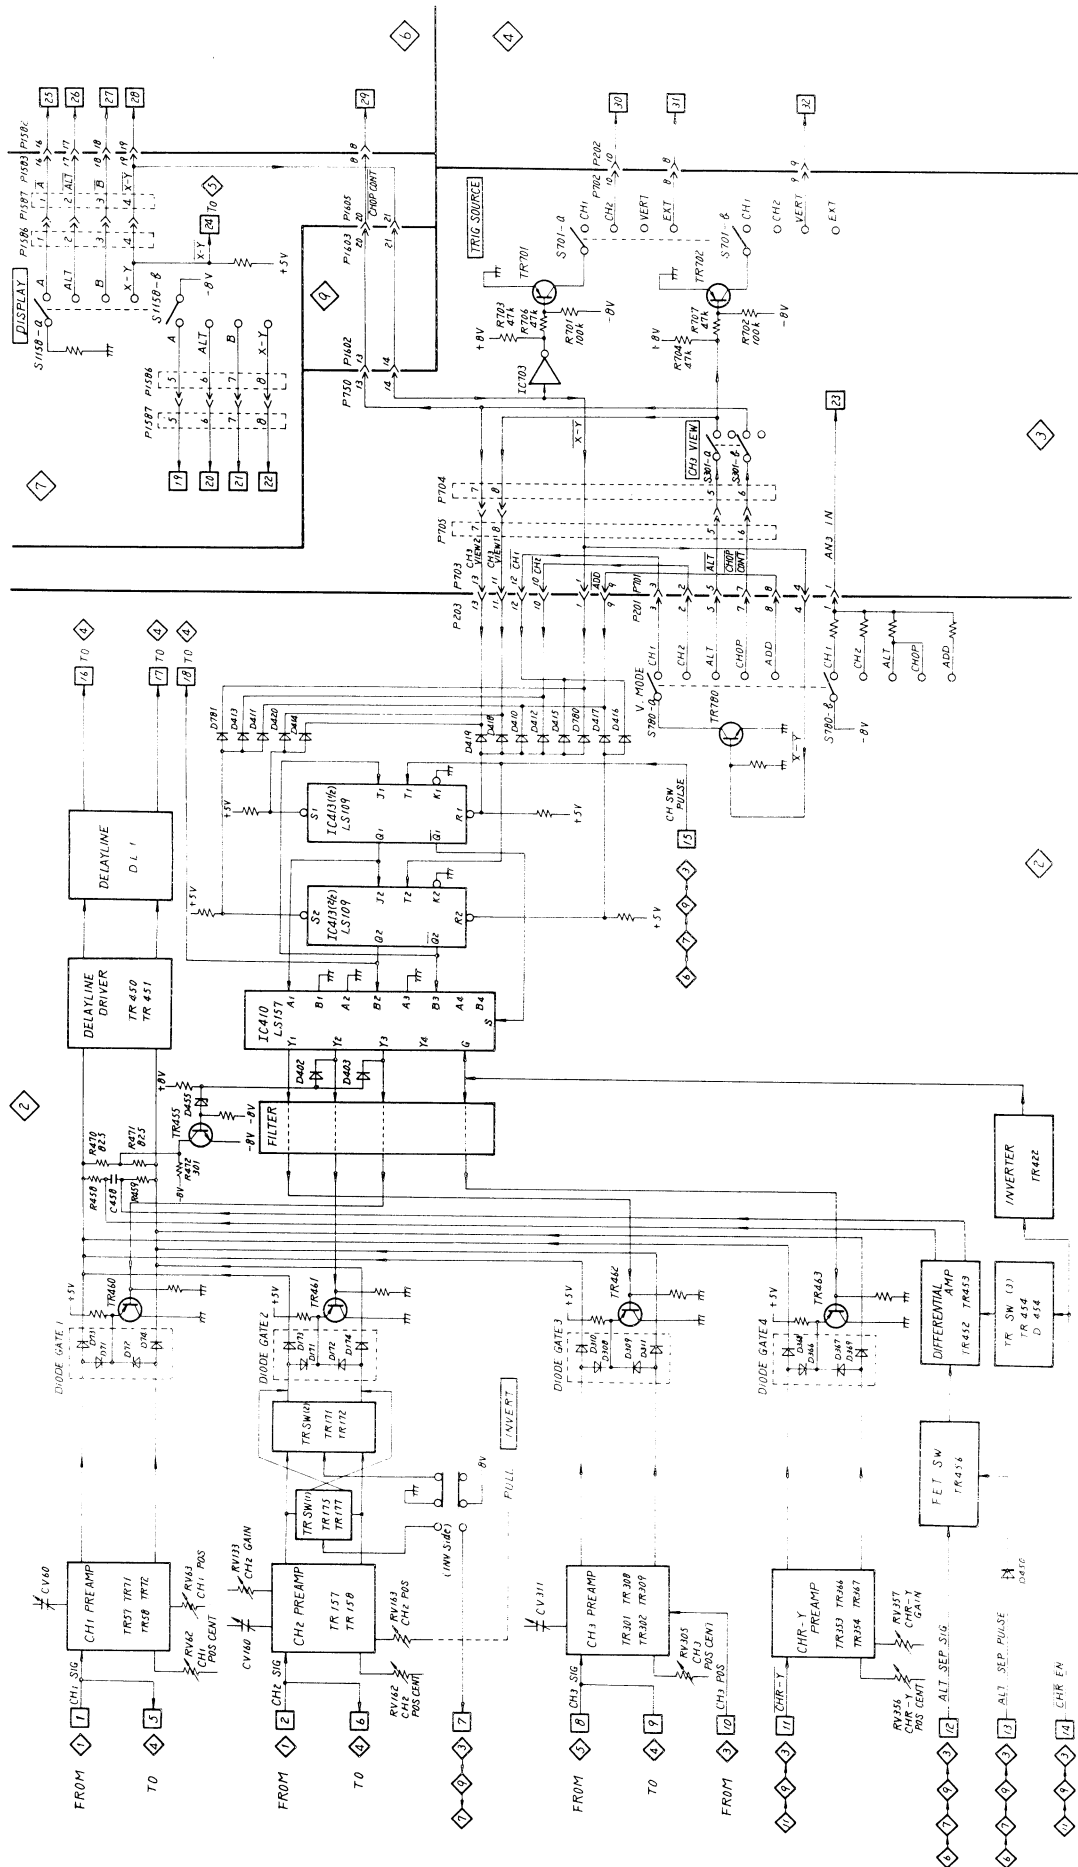

Fig.6-4
Figure 6-4 is a detailed block diagram of the VERTICAL SWITCHING circuit.
When the INVERT switch is set at the position as shown in Figure 6-4 (not pulled state), each base of TR171 and TR172 becomes "L", and the base bias current flows. Then, TR171 and TR172 become on. At the time, TR175 and TR177 are off since each base of TR175 and TR177 is "H."
However, since the output lines of TR SW (1) cross each other as shown in Figure 6-4, the inverted CH2 SIG is supplied to the DIODE GATE 2.